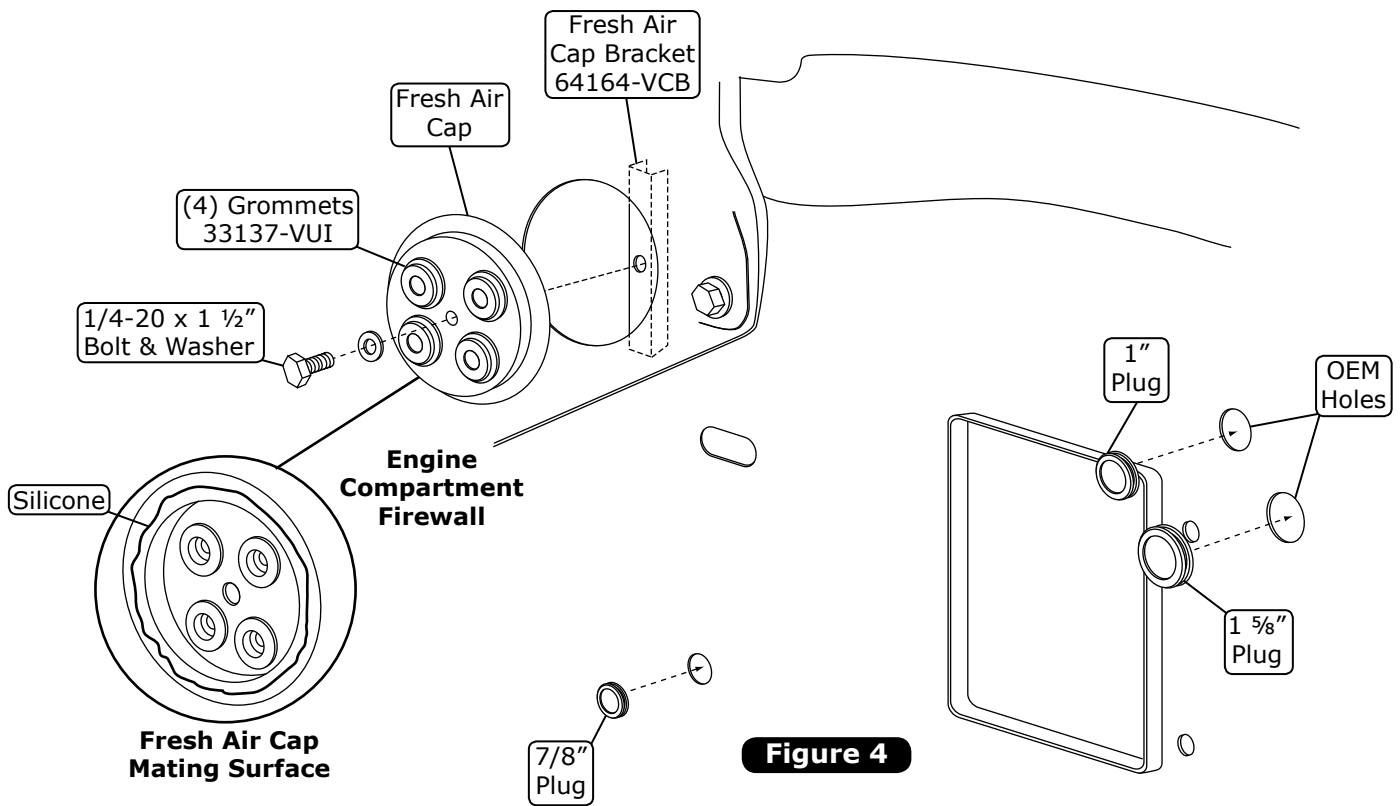

Figure 4
1. Install (4) grommets in the fresh air cap as shown in Figure 4, below.
2. Apply a 1/4" bead of silicone around the mating surface of the fresh air cap as shown in Figure 4, below.
3. Attach the fresh air cap to the firewall using the fresh air cap bracket, a 1/4-20 x 1 1/2" bolt, and a washer as shown in Figure 4, below. **NOTE: The fresh air cap installs on the engine side of the firewall.**
4. Install plugs into the firewall as shown in Figure 4, below.